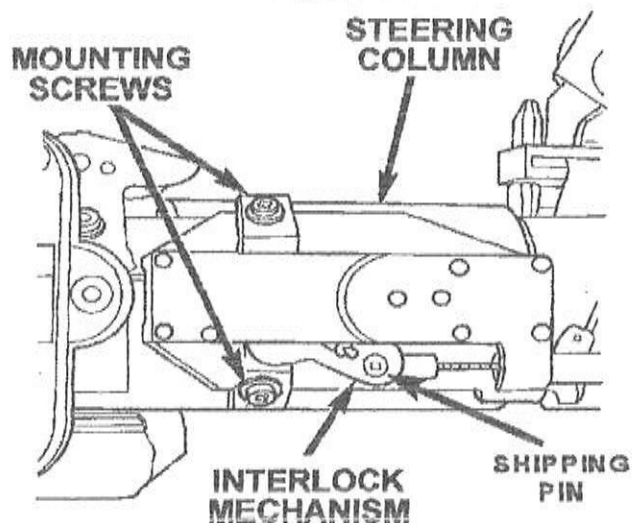

Figure 15
20. Disconnect the ignition interlock cable from the ignition key cylinder (Figure 15).
25. Connect the cable to the ignition key cylinder (Figure 15).
27. Secure the cable solenoid to the steering column with two (2) of the provided tie straps.
30. Remove the shipping pin from the cable ignition key lock cylinder fitting (Figure 15).